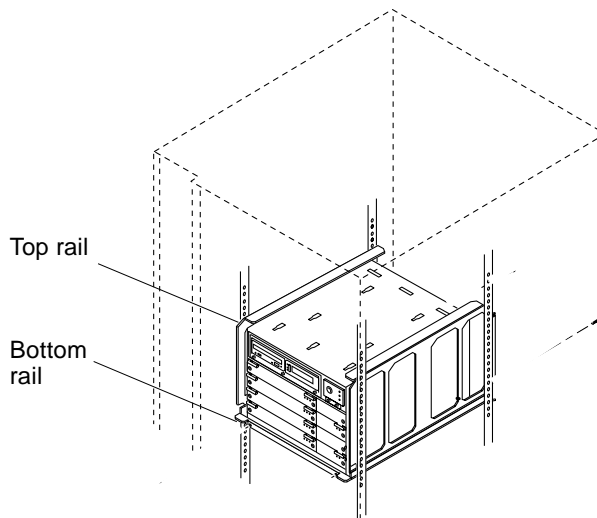

FIGURE 9 Top and Bottom Rails in System Cabinet
3. Lift and slide the system chassis into the system cabinet using the bottom rails as a guide (FIGURE 9).